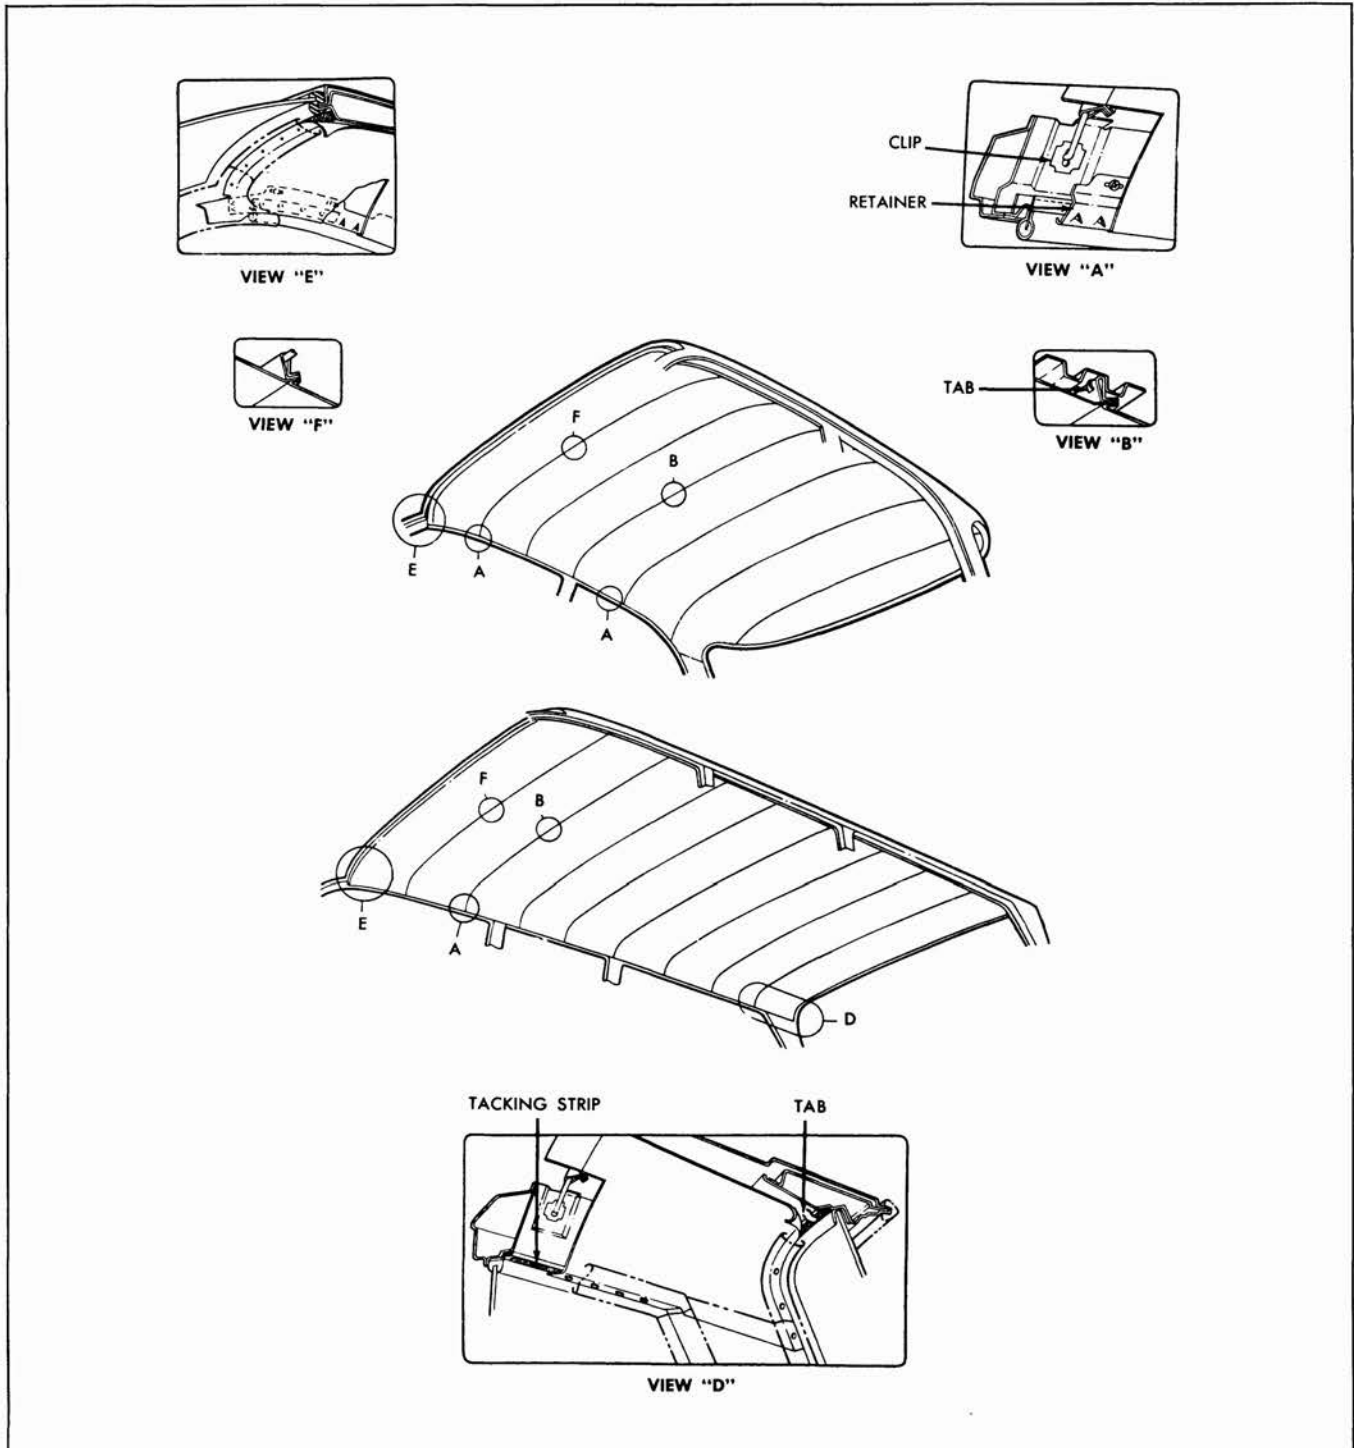
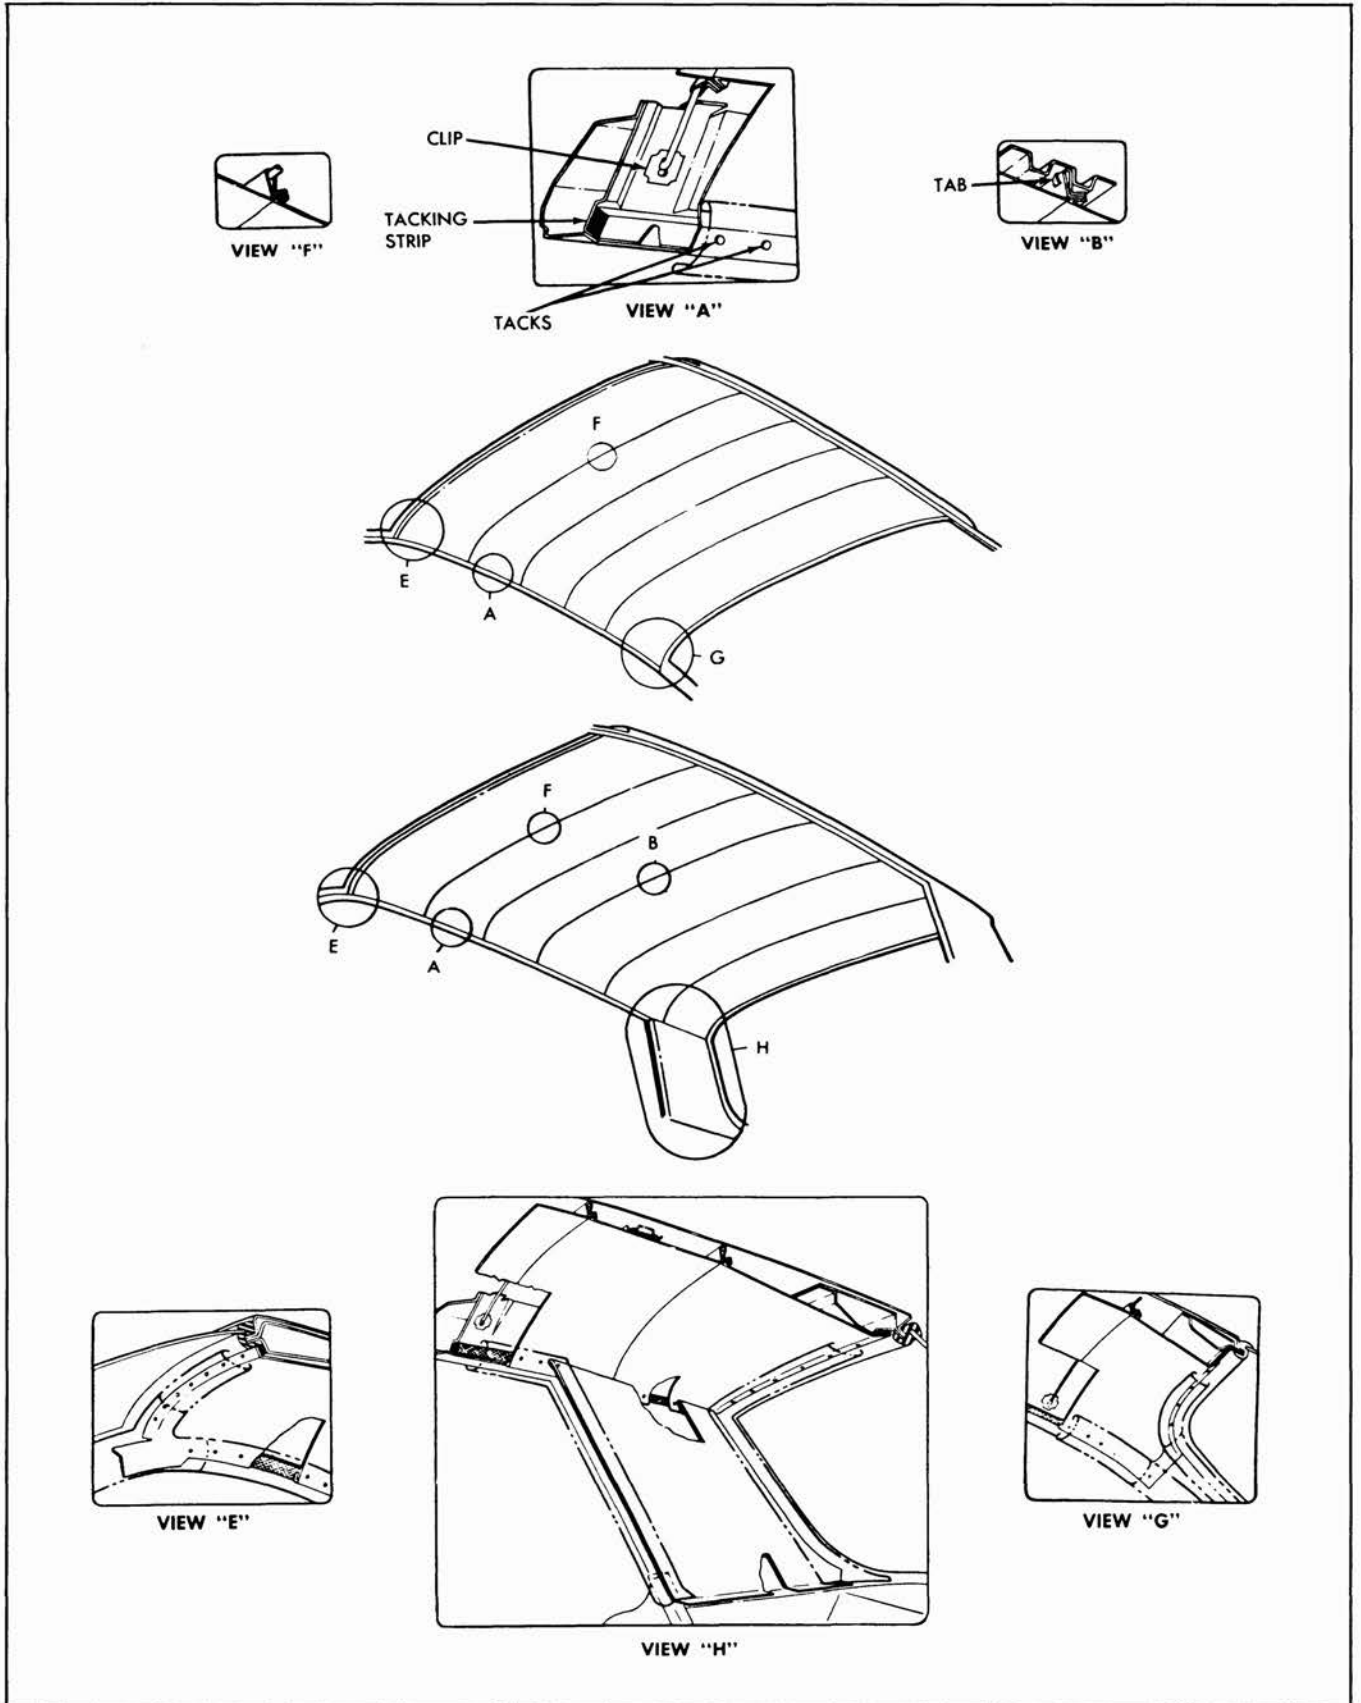

Fig. 7-1 Headlining Assembly
Fig. 7-2 Headlining Assembly
4. On styles where headlining is secured to side roof rails by retainers, use headlining inserting tool J-2772 or similar wide bladed tool and carefully disengage headlining from retainer tabs (View A, Fig. 7-1).
5. Working from front to rear of body, disengage headlining listing wires from side roof rails, gathering or folding headlining with listing wires on outside to keep headlining clean. Bend down metal tabs at bows on bodies using tabs to support listing wire (View B, Fig. 7-1 and Fig. 7-2).
6. Disengage headlining on styles using foundation board from metal tabs or retainers at back window (see View D, Fig. 7-1) and remove headlining assembly from body.
CAUTION: Note into which hole the ends of the listing wires are installed to insure proper installation (see View "A", Fig. 7-1 and Fig. 7-2).
2. Center and align rearward end of headlining and engage foundation board where used under metal retainer or metal tabs above back window (see View D, Fig. 7-1). Then working forward, install ends of listing wires into listing wire holes along side roof rail.
NOTE: Make certain listing wires are installed in correct hole in clips to insure proper contour of headlining. (View A, Fig. 7-1 and Fig. 7-2).
3. Install balance of listing wires into proper holes in listing wire clips (View A, Fig. 7-1 and Fig. 7-2). Install listing wire, where necessary,
window openings, (Views D and E, Fig. 7-1 and Views E, G and H in Fig. 7-2) and stretch and stay tack headlining to windshield and back window openings and along side roof rails if tacks are used.
5. Remove all "fullness" and "draws" from headlining material and permanently tack headlining to tacking strips (View A, Fig. 7-2).
NOTE: On those styles where side roof rail moldings are not used, use headlining inserter tool J-2772 or similar wide-bladed tool and carefully tuck edges of headlining under metal retainer tabs along both side roof rails. (View A, Fig. 7-1).